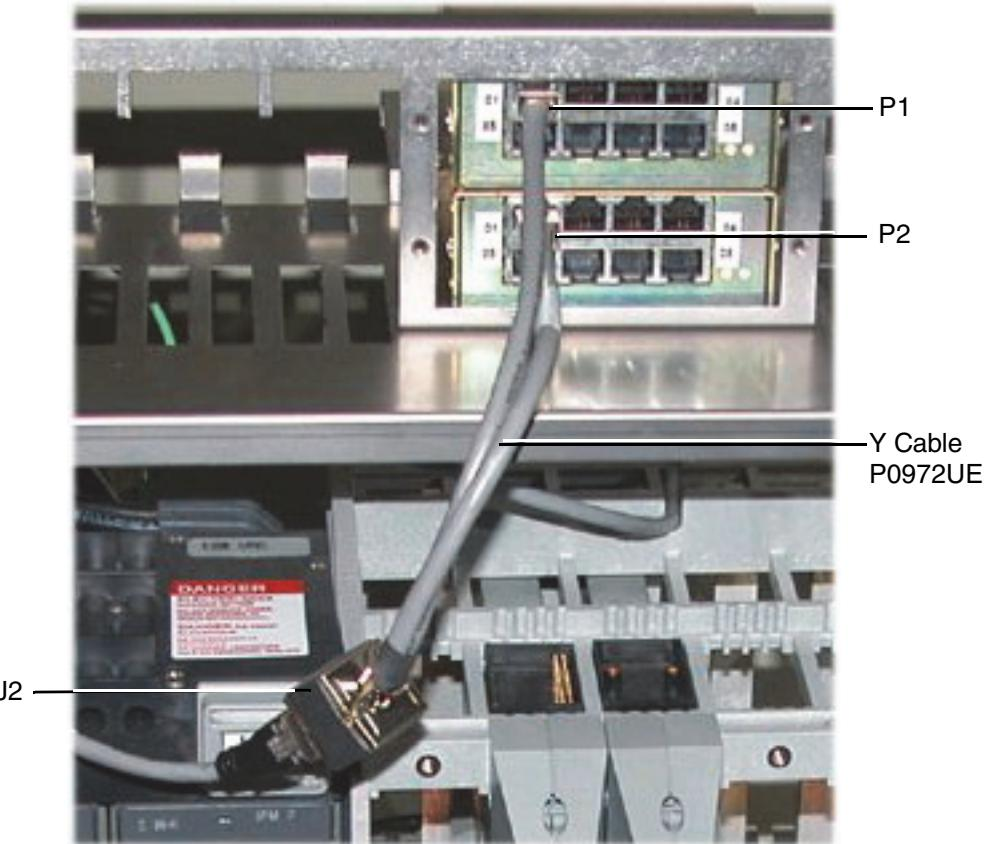

Figure 5-59. Y Cable (P0972UE) to ZCP270
1. Insert P1 (RJ-45 connector) of the Y cable (P0972UE) into one of the eight TSC RJ-45 outputs (see Figure 5-59).